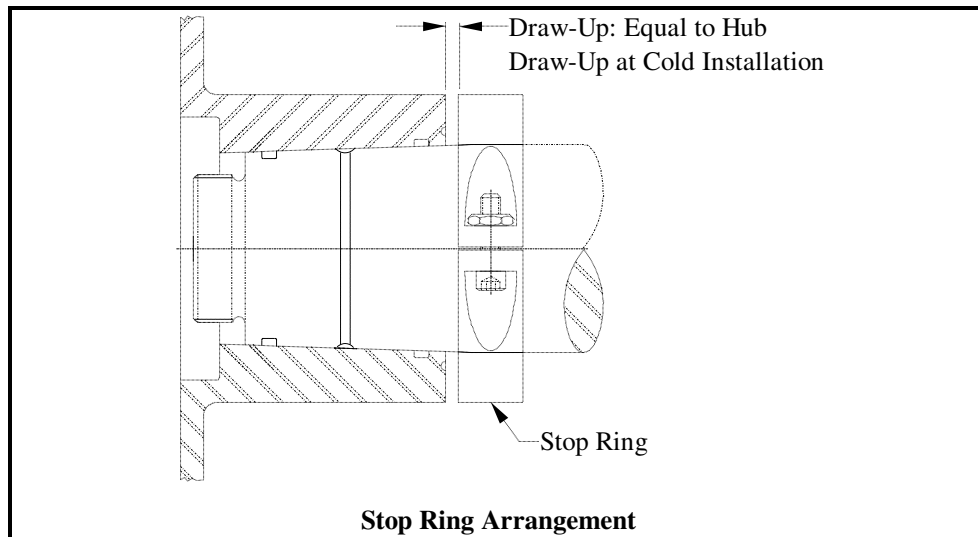

Figure 4-4
- 4.2.3.4 Install the hub, hand tight, onto the shaft without o-rings and back-up rings. Using feeler gages, position a positive stop onto the shaft corresponding to the draw-up dimension specified on the Ameridrives Sales Drawing (see Figure 4-4).